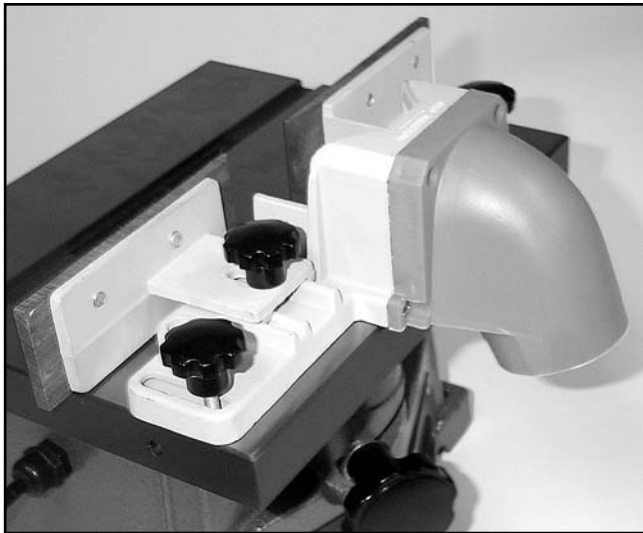

Figure 4. Mounting Fence Body On Table.
2. Mount the Fence Body (REF 12) on the Table (REF 10) using two knobs and washers. Screw the knobs through the slots of the fence body and into the threaded holes near the rear of the table. See **Figure 4**.